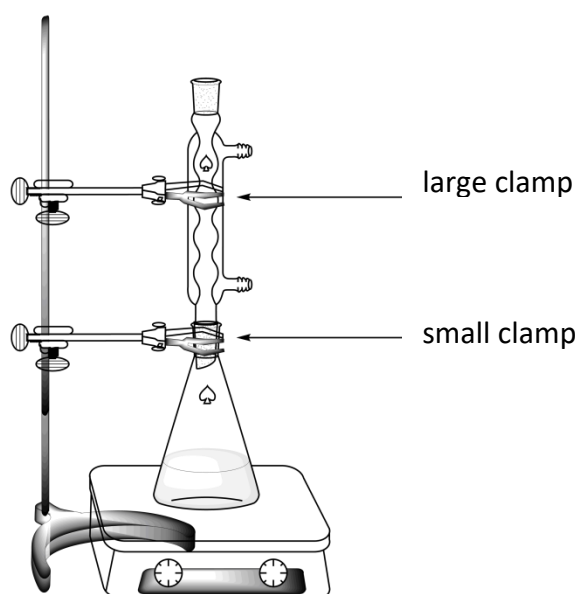

Figure 1. Setup for heating the reaction mixture under reflux
- Attach** the reflux condenser by loosening the large clamp and adjusting the ground joints (see Figure 1). **Raise** your HELP card. A lab assistant will come to turn on the water and set the hotplate.
2. **Perform** the recrystallization of the crude product contained in the 50 mL ground-joint Erlenmeyer flask with the appropriate amount of this water/ethanol mixture, using the same setup as for the reflux heating (see Figure 1). **Raise** your HELP card. A lab assistant will come to turn on the water and set the hotplate. **Add** the solvent by the top of the condenser if needed.